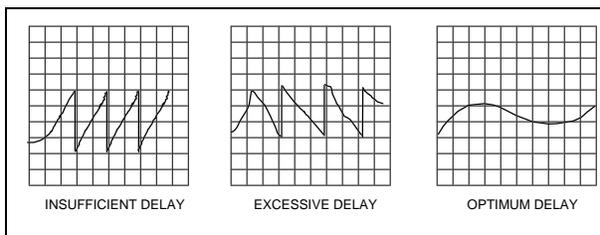

Figure 11. Delay Waveforms
10. Adjust the test delay to "match" the equipment and propagation delays to/from the REFERENCE Site/Channel. It is usually in the order of several milliseconds, and can be found empirically by "removing the sawteeth" resulting from the 360 degree wraparound as shown in Figure 11. Record the delay value obtained in the Test Delay column for the REFERENCE Site. Test Delays must now be calculated for the remaining sites per the instruction for the Test Delay column in Table 2.